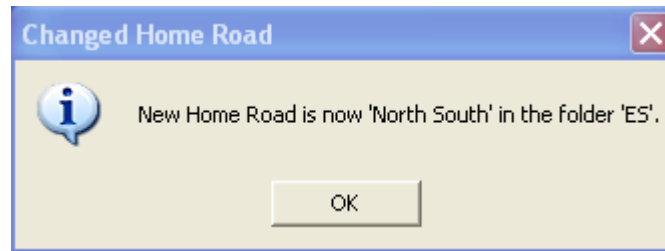

Figure 1-2
- Click on "NSOU" then click on "Change to this railroad". You should now see the message displayed in Figure 1-2.